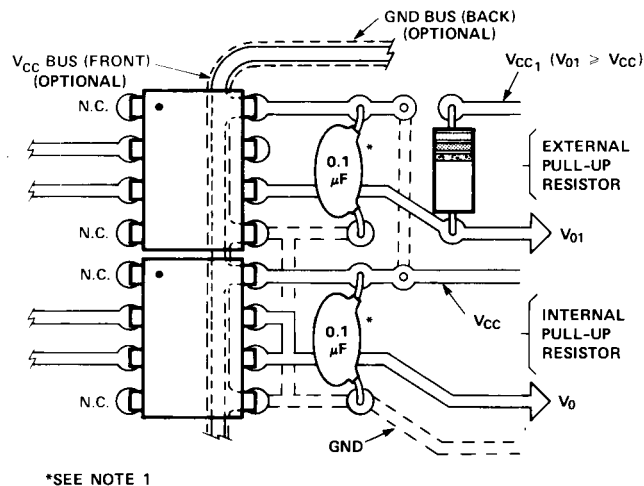

Figure 19. Recommended Printed Circuit Board Layout.
1. Bypassing the power supply line is required with a  $0.1 \mu\text{F}$  ceramic disc capacitor adjacent to each optocoupler as illustrated in Figure 19. The power supply bus for the optocoupler(s) should be separate from the bus for any active loads, otherwise a larger value of bypass capacitor (up to  $0.5 \mu\text{F}$ ) may be needed to suppress regenerative feedback via the power supply.